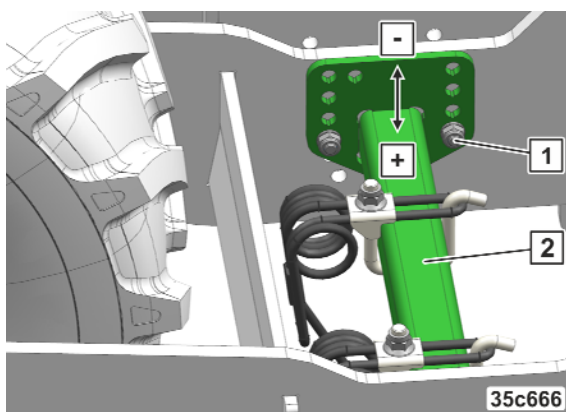

Fig. 199
1. Loosen the nuts (Fig. 199/1) and remove them.
2. Move the harrow arm (Fig. 199/2) to the desired position.
3. Move the harrow arm (Fig. 199/3) to the desired position.